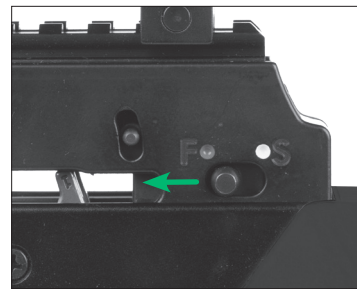

FIGURE 13
- 2c Slide the safety switch from the ON SAFE position to the FIRE position. (Fig. 13)
- 1h Continue drawing until the trigger safety switch moves to the "ON SAFE" position. (Fig. 13)